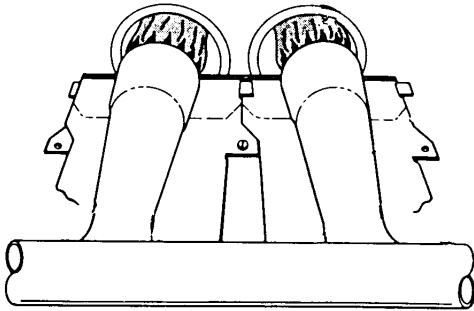

Figure 5. Burner and Manifold Assembly
- After ignition, visually inspect the burner assembly to ensure that the flame is drawn directly into the center of the heat exchanger tube as shown in Figure 5. In a properly adjusted burner assembly, the flame color should be blue with some light yellow streaks near the outer portions of the flame.